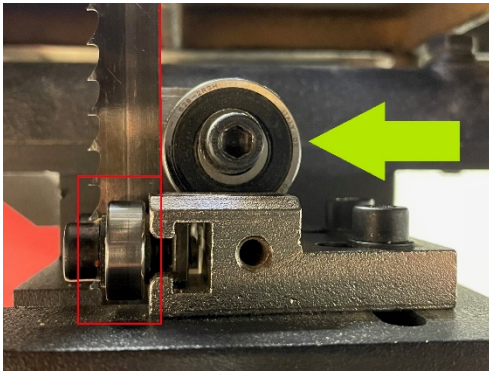

Figure 37
- Move forward the scroll bearing so that it is in contact with the classic cut blade and the lateral bearings in front of the heel of the blade. (Fig 37)